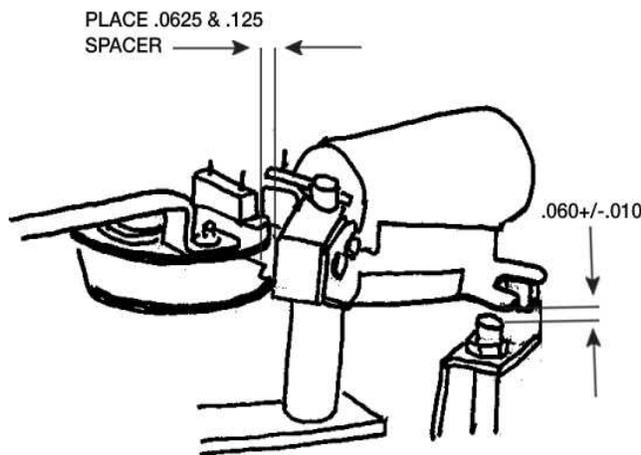

Figure 5
1. **LS1 Adjustment:** Check that axial play of the lock pawl is between .015 and .030. If necessary add or remove spacers P/N 96510031-19. Adjust gap between prox. sensor and vane to .060 using feeler gage See Figure 5. Power up sensor. Sensor LED light should be on. Place .0625 spacer between the teeter lever in locked position and lock pawl. Sensor LED light should stay "ON". Place .125" spacer between the teeter lever in locked position and lock pawl. Sensor LED lights should turn "OFF" with the lock pawl still in locked position. If necessary readjust gap between prox. sensor and vane to achieve de-actuation of the prox. sensor when lock pawl is between .0625 and .125 away from the teeter lever See Figure 5. Remove spacer. Secure this adjustment, torque sensor mounting hardware to 130 inch-lbs and witness mark. Torque down bracket's mounting hardware to 7 Ft.-Lbs. and witness mark.